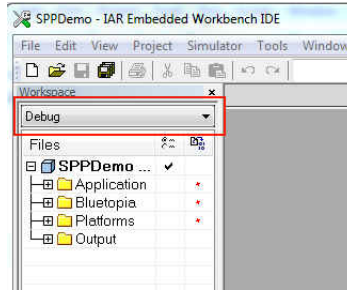

Figure 6-5. Debug Workspace
5. Select either the *Debug* or *Release* configuration from the drop-down menu (in this example, select *Debug*, see Figure 6-5).